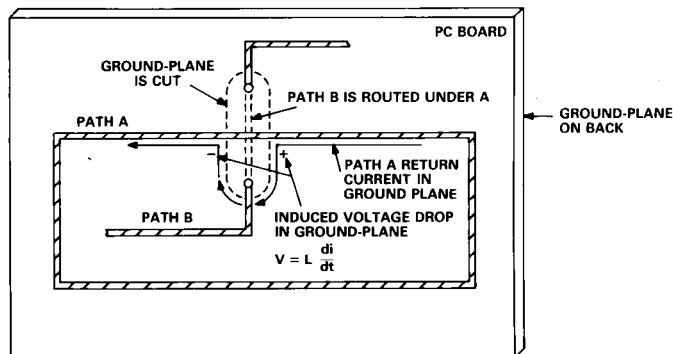

Figure 11. Typical PC layout problem, with paths crossing.
*Avoiding Layout Problems* Once the return current paths in the ground-plane are understood, common layout trouble spots can be identified and corrected. For example, in Figure 11, path A is identified as critical, to be kept short, away from digital lines, and free of vias. Path B is of lesser importance, but needs to cross A. Typically, the ground plane is cut under A, and B is then routed through two vias and under A.